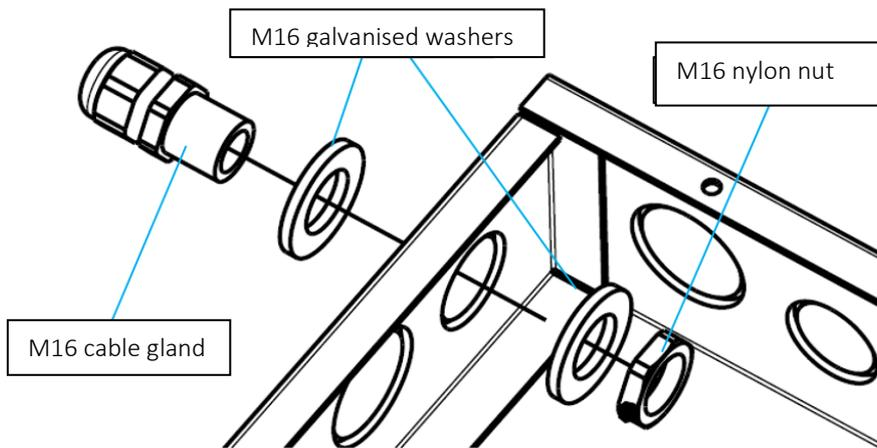

Fig. 35 Cable gland installation diagram
- C. Fasten the cable gland to the junction box as shown in Figure 35.
- C. Fasten the cable gland to the junction box, as shown in Figure 35.